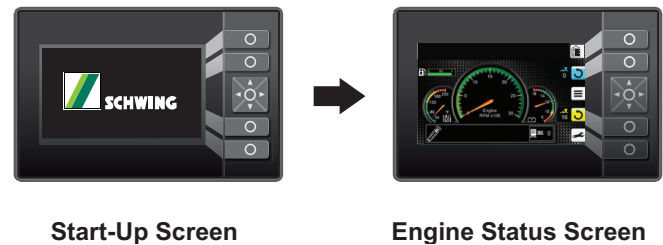

Figure 2
- From the operator control panel, turn the ignition key switch to the RUN position. The SCT2 controller will initialize, and the SCHWING logo will appear on the screen. When the system has finished initializing, the Engine Status Screen will be displayed (Figure 2). Turn and hold the key switch in the START position; when the engine starts, release. You can't start the engine until the SCT2 controller has initialized.